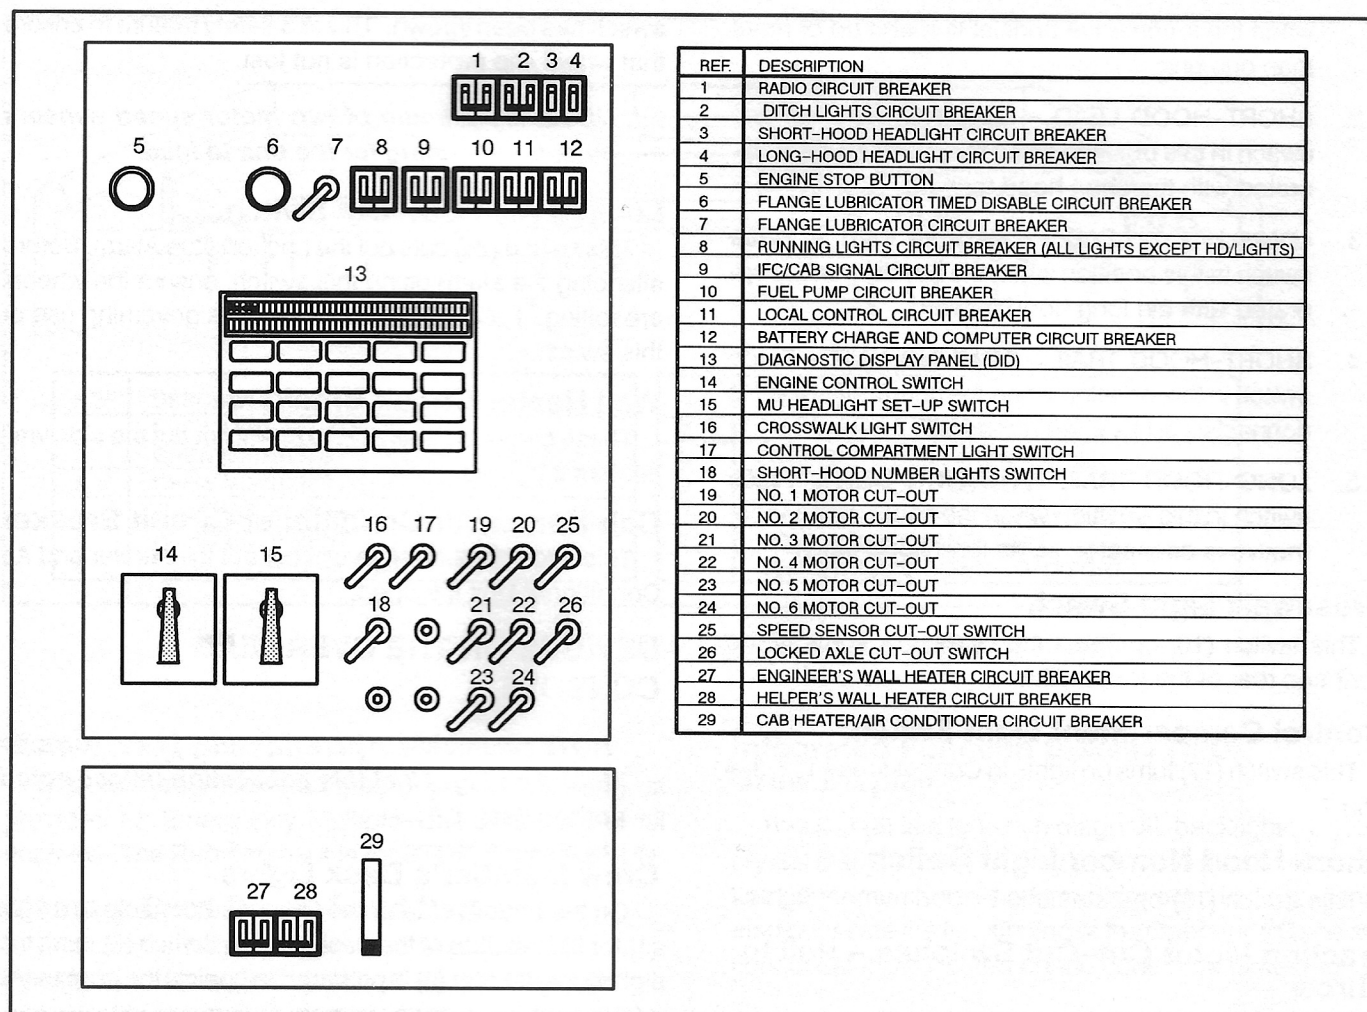

FIG. 9. ENGINE CONTROL PANEL. E-40977.
**NOTE: The Heater/Air Conditioner Circuit Breaker on the Circuit Breaker panel, located below the EC panel (Fig. 9) must be ON to operate Air Conditioner and Heater.**
**NOTE: Numbers in parentheses ( ) refer to Items found on Fig. 9 of this publication unless noted otherwise.**